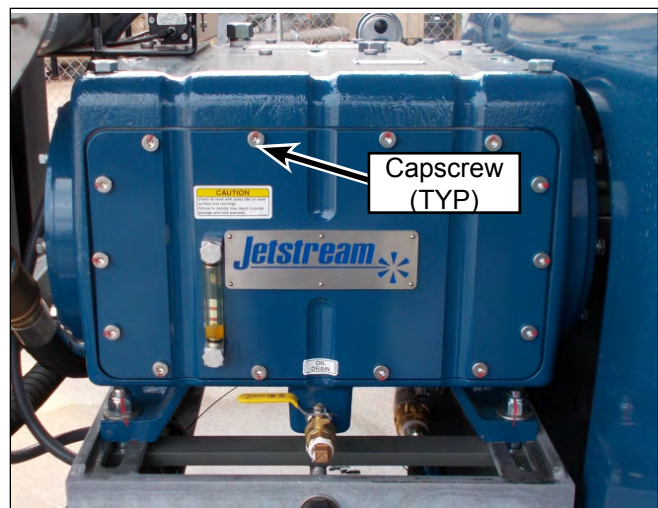

Figure 125: Install Capscrews with Proper Torque.
10. Place the back plate (Figure 125) into position on the frame.